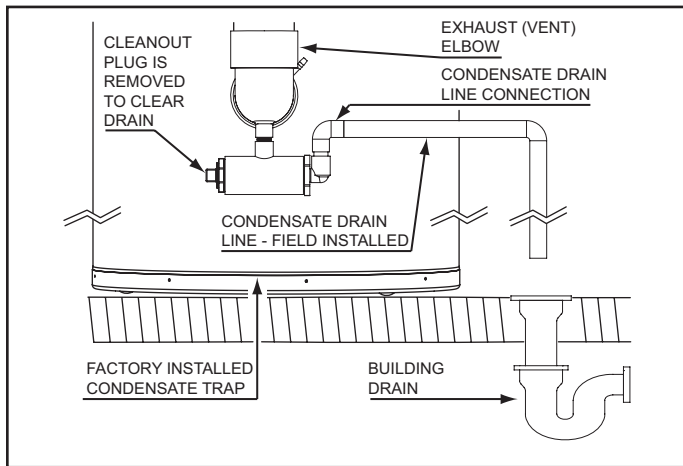

Figure 8
Condensate drains from the water heater at the exhaust elbow located mid-way of the heater. The field installed condensate drain line must not be elevated above the condensate drain connection on the condensate trap, see Figure 8. If the condensate does not drain properly it will build up in the exhaust (vent) elbow. This will restrict the flow of flue gases and cause the Blocked Exhaust pressure switch to open its contacts. The control system monitors all pressure switches, if the Blocked Exhaust Switch contacts are open the control system will lock out and disable heating operation. The "Blocked Exhaust" Fault message will be displayed on the control system's LCD, see Fault And Alert Conditions beginning on page 58.
**DO NOT** remove the factory installed condensate trap for any reason, see Figure 8. The water heater's vent pipe is under a slight positive pressure. The water trap prevents flue gases from escaping into the installed space. See Condensate Drain Installation on page 36.